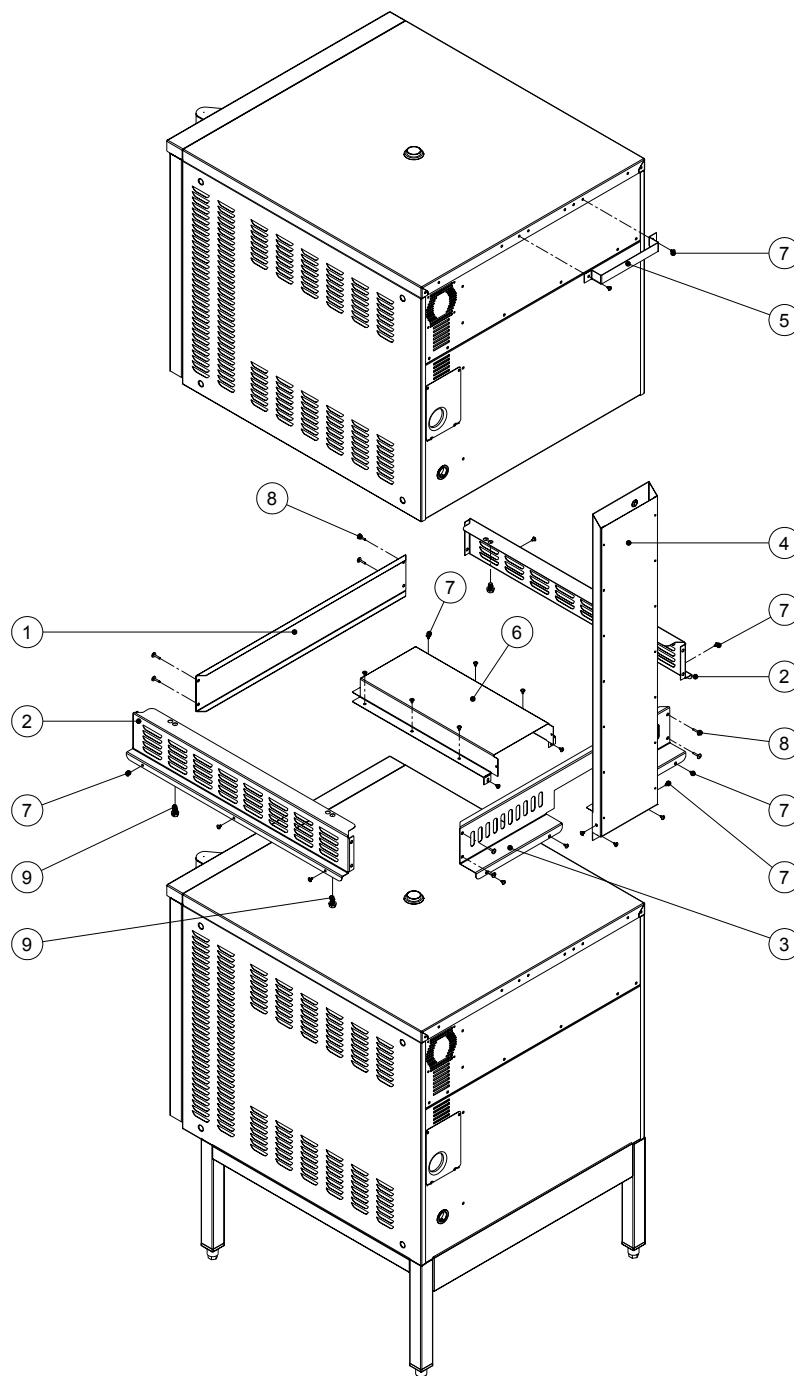

Figure 2
- Position the shroud rear (**3**) (refer figure 2) on top of the bottom unit so that it is positioned correctly over the oven back. Position the flue duct (**6**) on the bottom unit so that it is positioned centrally in shroud rear flue cut-out and is flush with the oven back. Check that the oven vent is covered and mark the six hole positions (three down each side of the flue duct) on the oven wrapper.